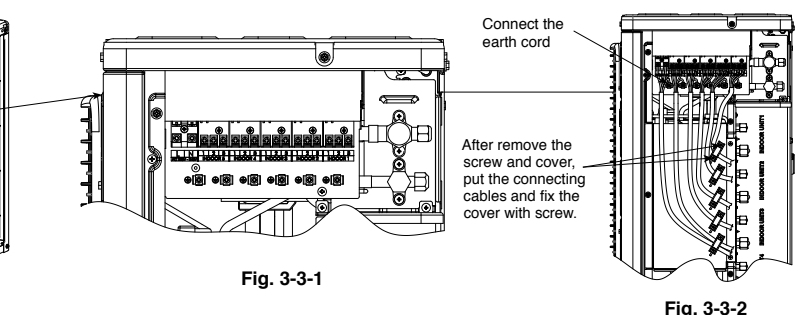

Fig. 3-3-2
- Connect the connecting cord and power cord to the terminal board. (Fig. 3-3-2)
- Fix the connecting cords and power cord with steel band certainly. (Fig. 3-3-2)
- ※ To avoid connecting cord scratch or clamp by side cover, it must be fix by band as shown in Fig. 3-3-2.